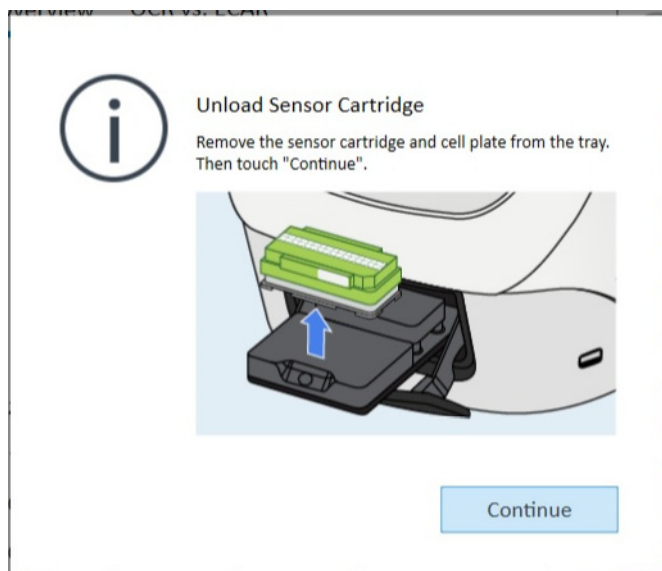

Figure 11. Remove cartridge and cell plate prompt.
- 7 Once the assay has finished, the XF HS Mini Analyzer prompts the user to eject the cartridge and remove the cartridge and cell plate. See **Figure 11**.